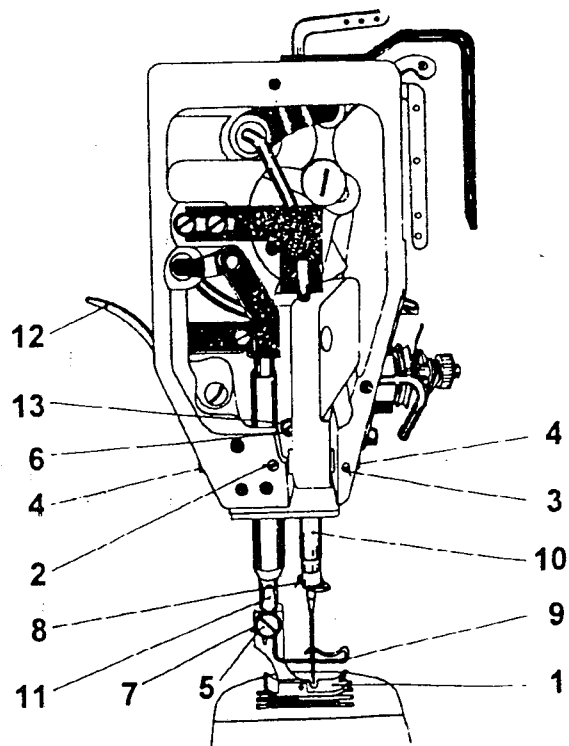

Fig. 4
#### 5. To lift the presser foot (Fig. 4)
### 7. To insert the needle (Fig. 4)
**8. To adjust in height the needle bar (Fig. 4)**
14. To exchange the presser foot (Fig. 4)
**16. To adjust the needle punches longitudinally into the centre of the slot of the throat plate (Fig. 4)**